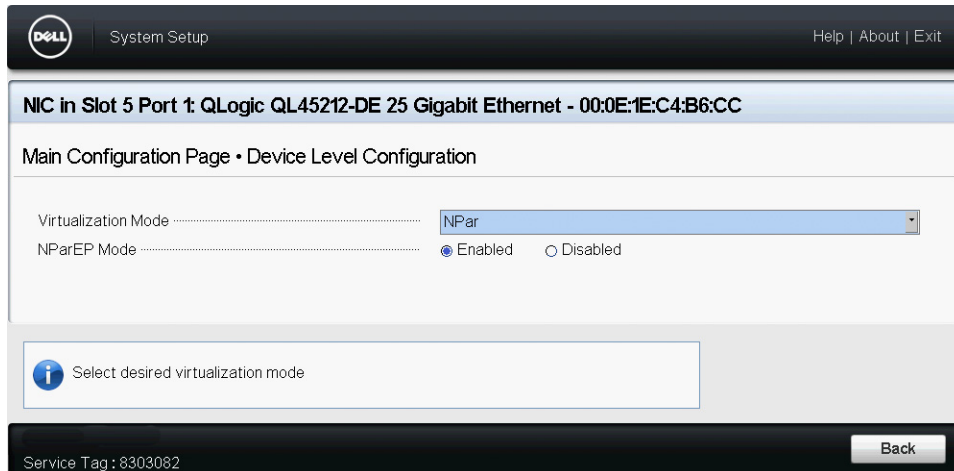

Figure 5-7. System Setup: Device Level Configuration Page
Device-level configuration comprises enabling single root-I/O virtualization (SR-IOV) and NIC partitioning, and enabling or disabling NPAReP. To perform device-level configuration, select **Device Level Configuration** on the Main Configuration Page, and then click **Finish**. Figure 5-7 shows the Device Level Configuration page.
2. On the Device Level Configuration page (Figure 5-7), click **Virtualization Mode**, and then select from the following options: